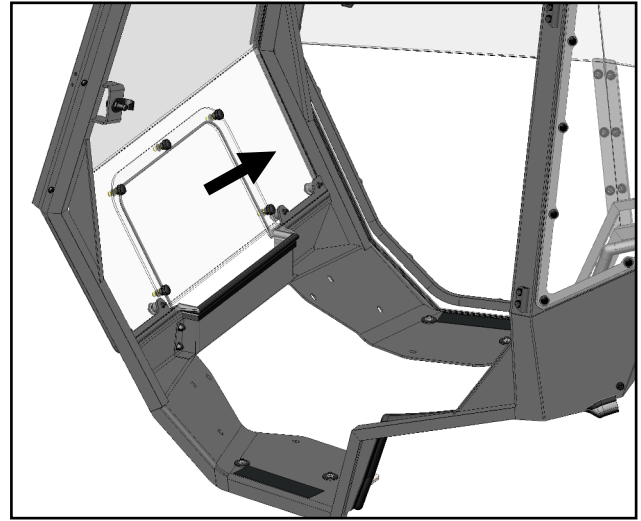

Fig. 11.1 (Attach Gas Shock)
- 11.1 See fig. 11.1. Re-install doors and install gas shocks. The end with the red tab should be attached to the sideframe of the vehicle.